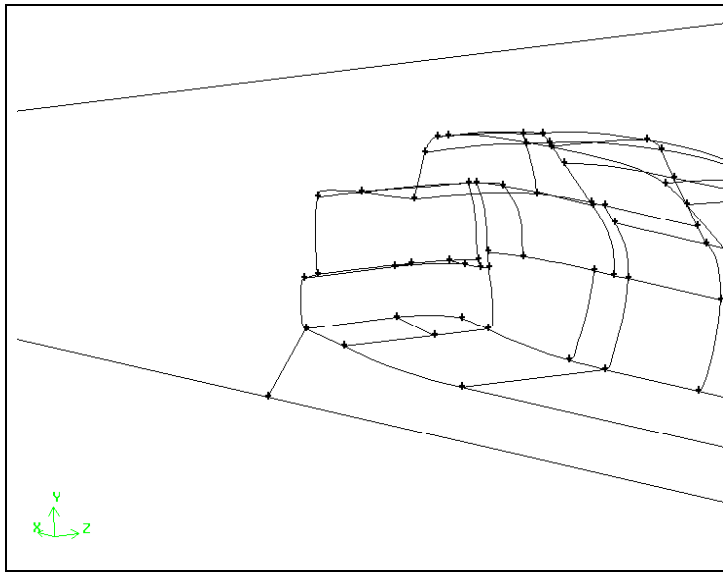

Figure 6-15: Edge from bottom of symmetry plane to rear of sedan
3. Create a straight edge from the second vertex created on the bottom edge of the symmetry plane to the rear bumper of the sedan, as shown in Figure 6-15.